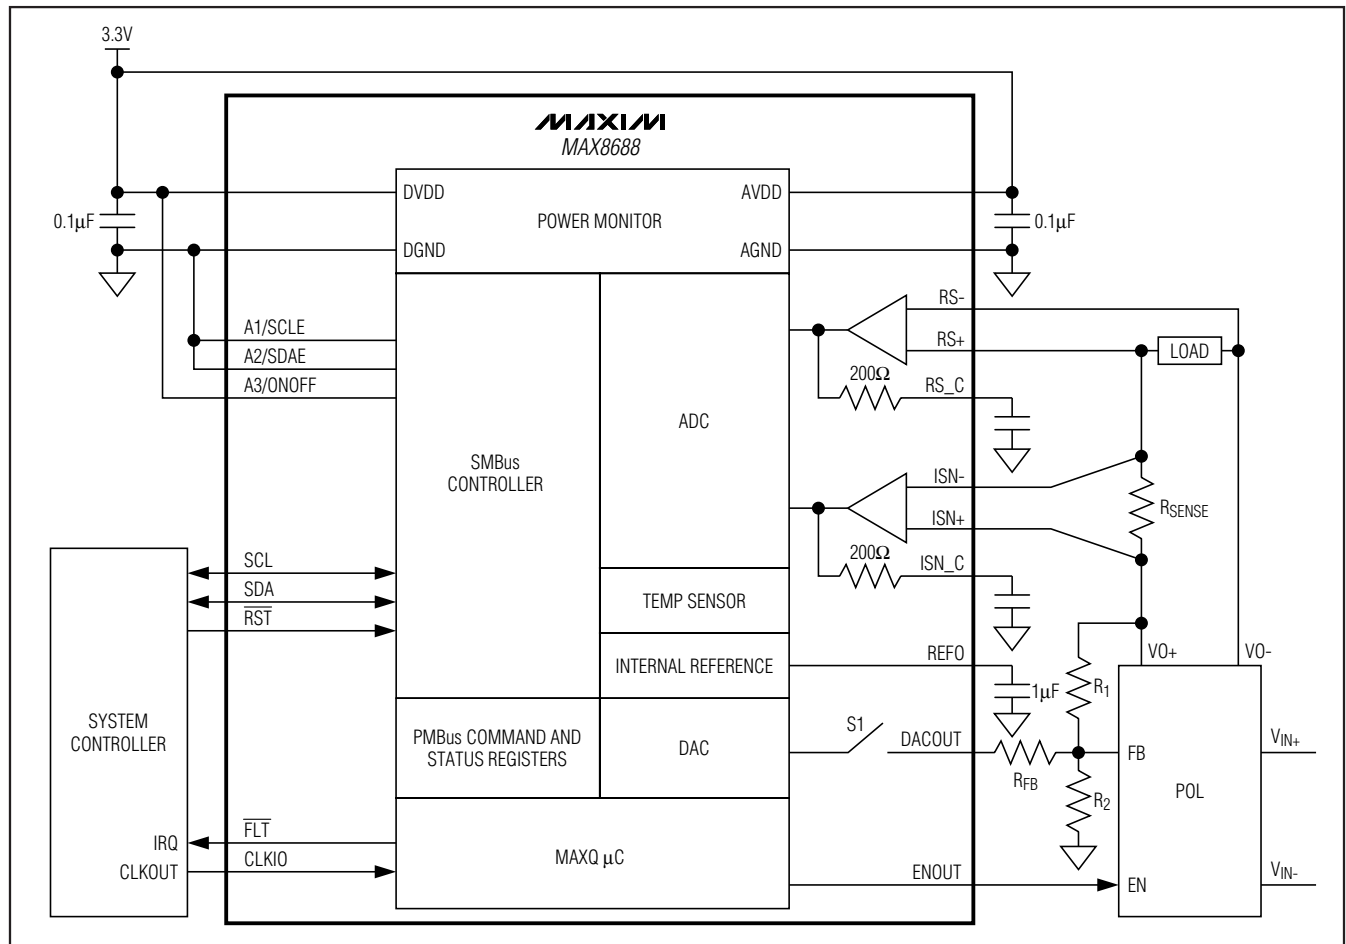

Figure 5. Typical System Application—Feedback Mode
In applications where a REFIN input is not available, the MAX8688 interfaces to the inverting input of the POL error amplifier, the feedback node (FB), through a resistor R_{FB} as shown in Figure 5. In steady-state operation, the MAX8688 controls the POL voltage as measured between $RS+$ and $RS-$ to 0.2% accuracy over line, load, and temperature variations, by adjusting DACOUT 1 LSB (0.5mV) at a time, up and down as required. This mode of operation is termed FB mode. Since the MAX8688 does not have control over the POL error-amplifier reference voltage, this mode relies on the POL soft-start setting to implement the required soft-start time. On receipt of either an OPERATION ON command or a turn-on signal from A3/ONOFF, the MAX8688 commences startup operations that have been programmed for the POL being controlled. After the programmed t_{ON_DELAY} time, the MAX8688 open-drain ENOUT output goes active, causing the POL to ramp up its output voltage to its target value. The soft-start time taken by the POL to ramp from zero to its commanded output voltage should be entered into the MAX8688 with the t_{ON_RISE} parameter.